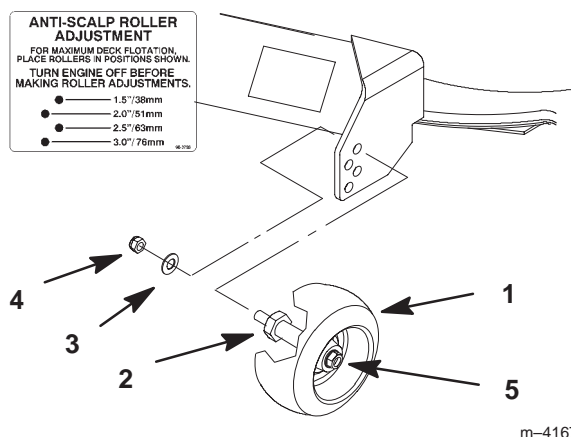

Figure 24
2. After adjusting height-of-cut remove nut and washer while holding stud with wrench (Fig. 24).
- Note:** Do not remove the wheel nut and washer (Fig. 24).
3. Select hole so gage wheel is positioned to the nearest corresponding height-of-cut desired (Fig. 24).
4. Reinstall the stud nut and washer (Fig. 24).